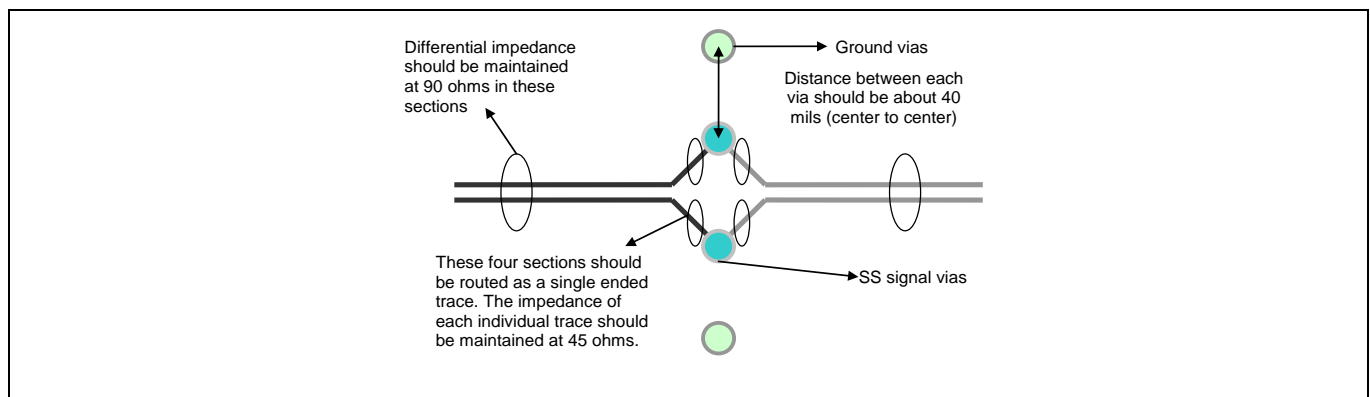

Figure 25 Ground vias
- If signal routing has to be changed to another layer, continuous grounding has to be maintained to ensure uniform impedance throughout. To achieve this, ground vias should be placed next to signal vias. The distance between the signal and ground vias should be at least 40 mils. See Figure 25.